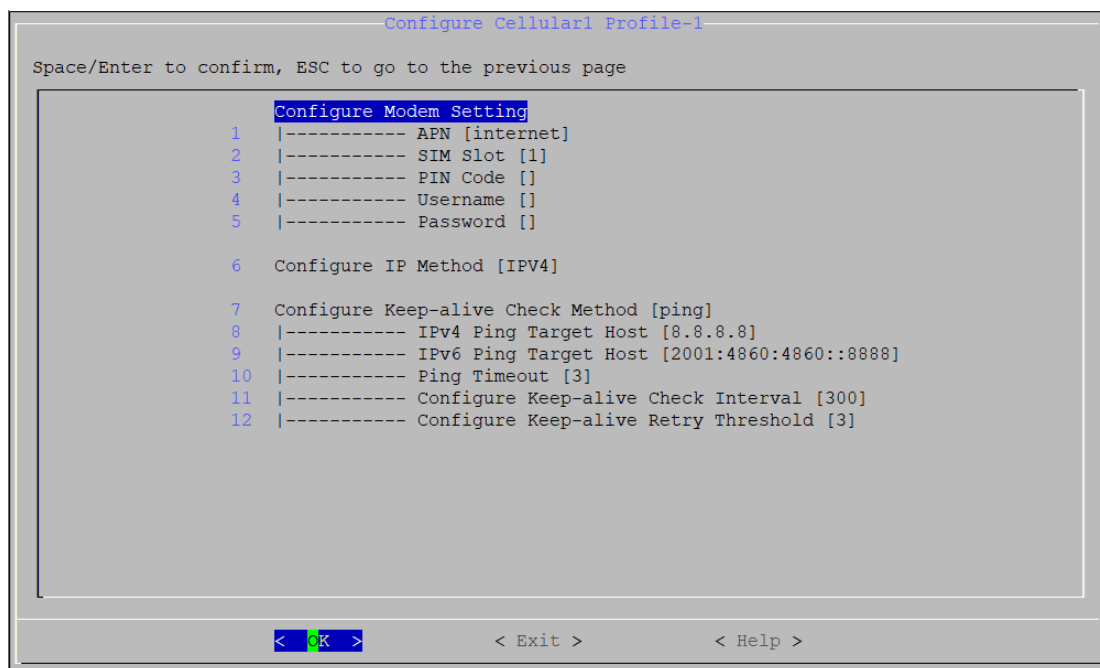

Figure 5.5 –Network profile setting (cellular interface as an example)
7. Go to the interface configuration page of WiFi1 and Cellular1 (Figure 5.5 is an example of Cellular)